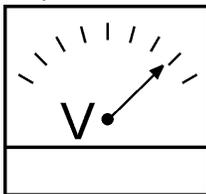

Figure 48. Voltmeter Meter
- The generator's AC-voltmeter (Figure 48) will display the generator's output in **VOLTS**.